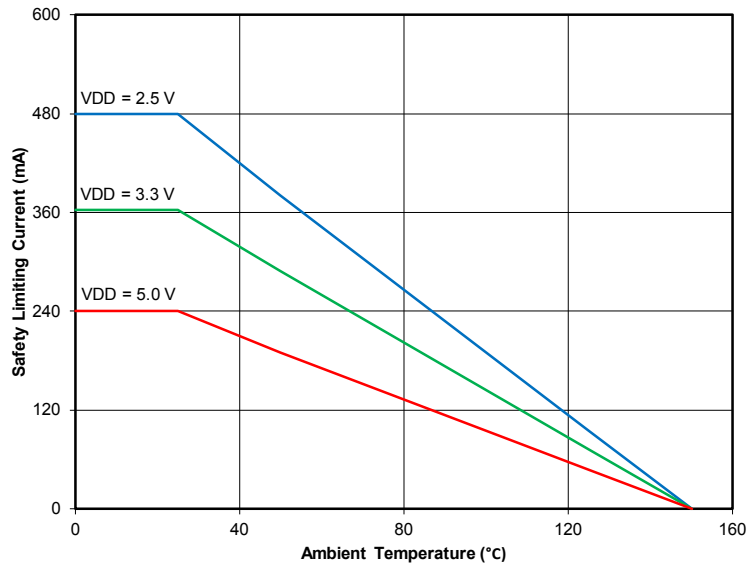

Figure 5.2. (QSOP-20) Thermal Derating Curve, Dependence of Safety Limiting Values per VDE
1. Maximum value allowed in the event of a failure; also see the thermal derating curve in Figure 5.2 \(QSOP-20\) Thermal Derating Curve, Dependence of Safety Limiting Values per VDE on page 22.